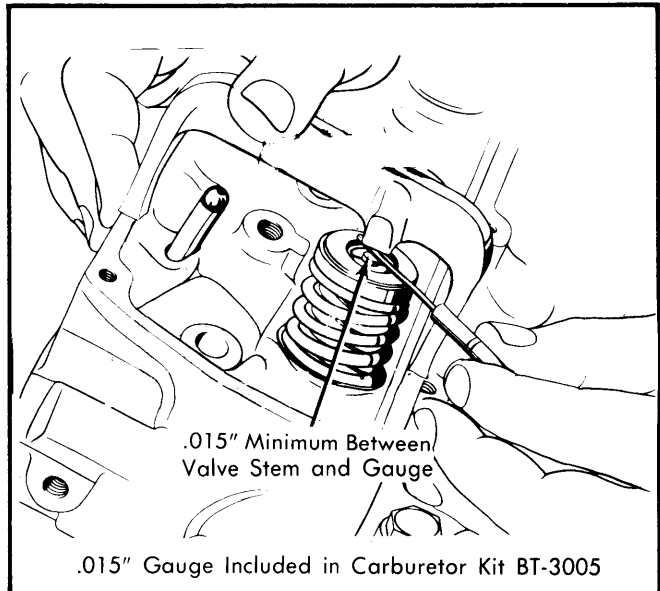

Fig. 4 Measuring Valve Stem Height
2) Measure valve stem height whenever new valve is installed or after grinding valve. Use valve stem height gauge (BT-6428) as shown in Fig. 4. There should be at least .015" clearance between gauge and valve stem. If clearance is less than .015", grind tip as required.